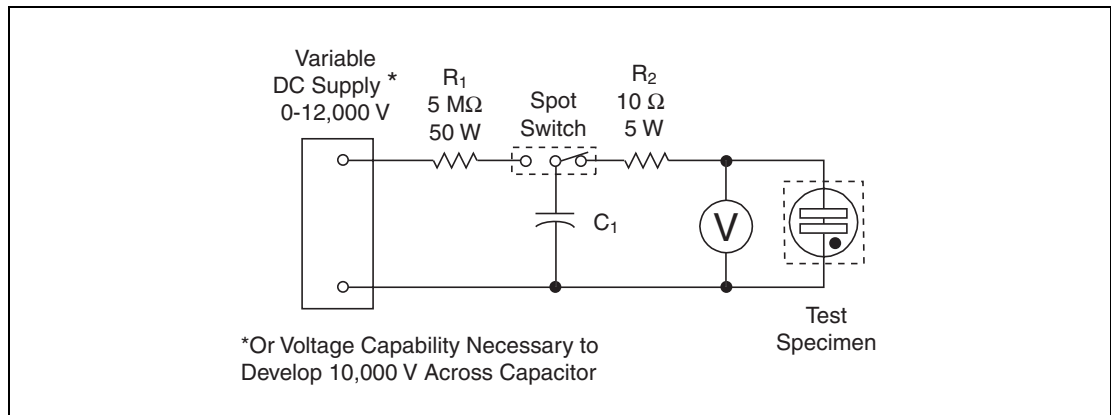

Figure 4.9 UL 497 Discharge Test
- Discharge Test — Protectors must comply with the strike voltage requirements after being subjected to five successive discharges from a 2 μ F capacitor charged to 1000 V dc. (Figure 4.9).
- Repeated Discharge Test — The arrester must continue to break down at or below its maximum rated breakdown voltage after being subjected to 500 discharges from a 0.001 μ F capacitor charged to a potential of 10,000 V dc. The interval between pulses is five seconds. Arrestors are to be tested in each polarity, and it is acceptable for the protector to short circuit following the discharge testing. (Figure 4.9)